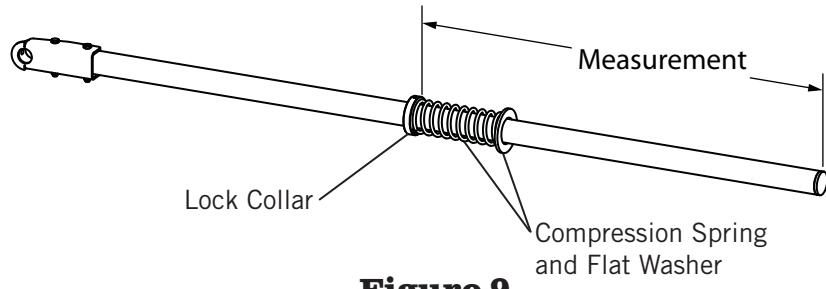

Figure 9
- 5) See Figure 9.** Install and tighten the upper lock collar (3) on the swing-arm assembly at the transferred measurement. Slide the compression spring (5) and 2" washer (6) onto the rear swing-arm assembly (2).